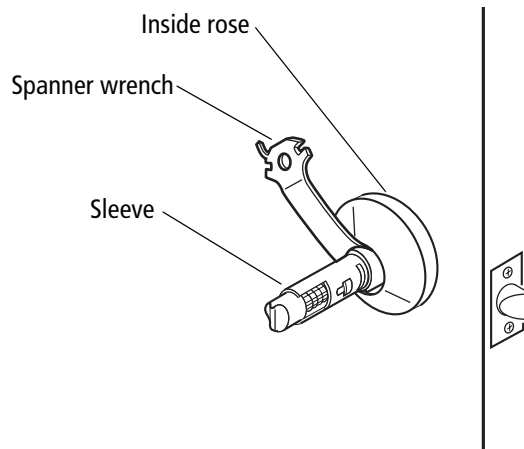

Figure 3.5 Removing the inside rose with the spanner wrench
2. Insert the solid, curved end of the spanner wrench in between the rose and the sleeve, as shown in Figure 3.5. Pry the rose until it pops off of the liner.